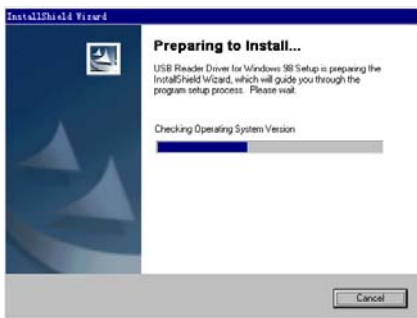

Fig 3-60
3. Connect CF card to the USB port of the PC with the attached USB cable. Find and Double click on setup.exe file in the catalogue of CD-ROM. The system will make preparation for the installation. See Fig 3-60